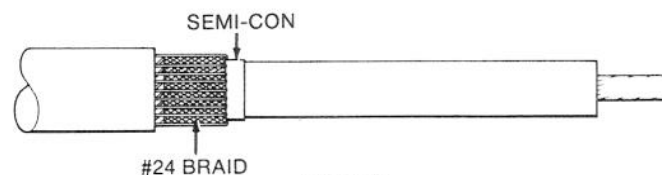

Figure 3
2. Bend shielding wires back over 24 Tape and cut excess off at jacket edge. Figure 3.